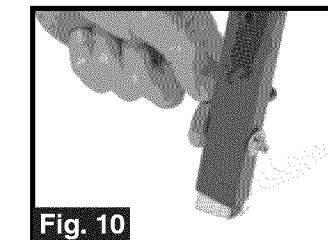

Fig. 10
8. To stabilize and level the tile saw, adjust the leveling "set screw" located on the bottom of the left front leg (Fig. 10).